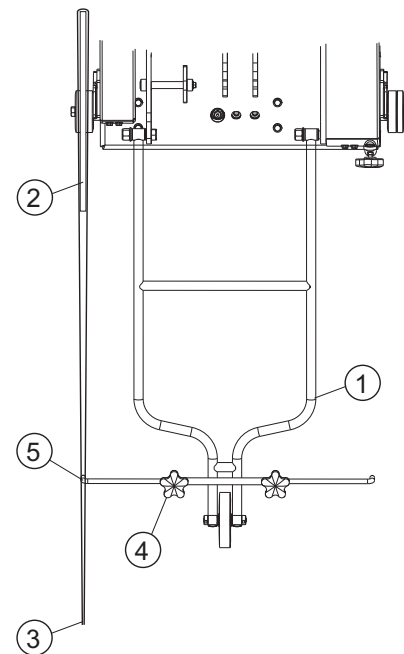

Figure 23. Adjusting the Pointer Assembly
2. Using 10-12 ft. (3-3.7 meters) of stringline, divide the length of the string in half and slide the string into one of the slots or gullets on the backside of the blade (as viewed standing in front of the pointer). See Figure 23, item 2. Hold both ends of the string in one hand and pull the string taut (Item 3). Move your hand from side to side until both strings are touching both sides of the blade.